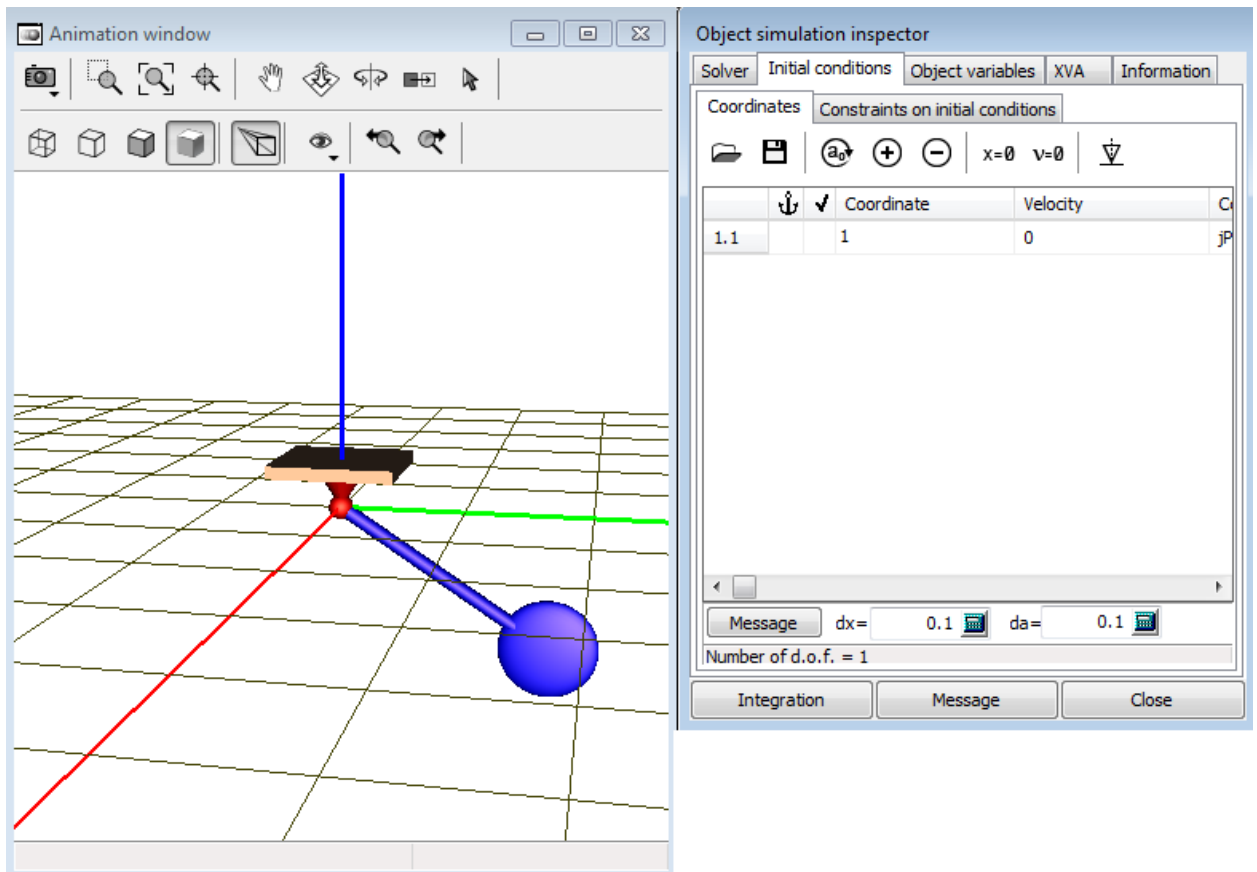

Figure 1.16. Pendulum movement initial conditions
2. Set **Coordinate** to **1**. Press **Enter** key, see Figure 1.16.